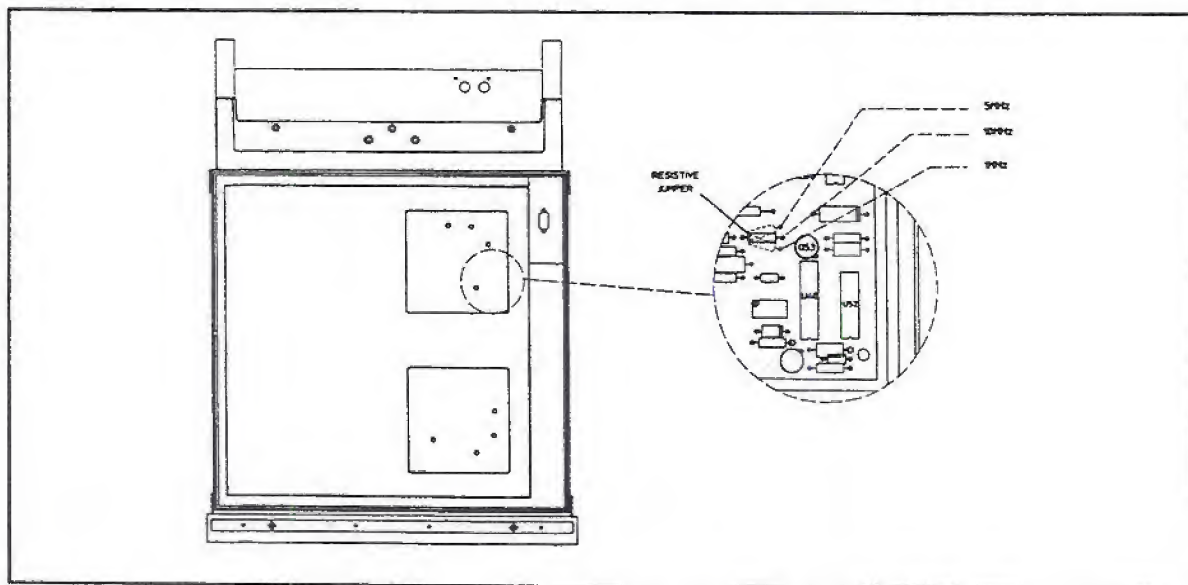

Figure 2-2. Time Base Jumper Location (A3 Board)
- Refer to Figure 2-2. Locate the A3 50 MHz Reference Oscillator. Using a 1/4 inch wrench (spanner), slacken the eight retaining nuts (2 per side) which secures the top cover. Then remove the top cover. Locate the time base selection link.